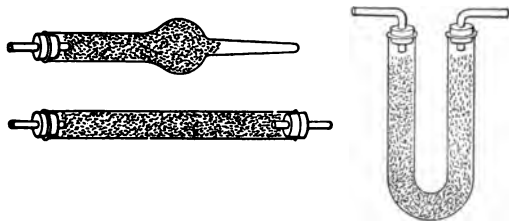

FIG. 44.
M. The salt is placed in a specially shaped tube (Fig. 44) and the gases that we wish to dry are led through it. If you cannot blow such tubes for yourself, you need only close a wide tube at both ends, with perforated corks having narrow tubes through them; only don't